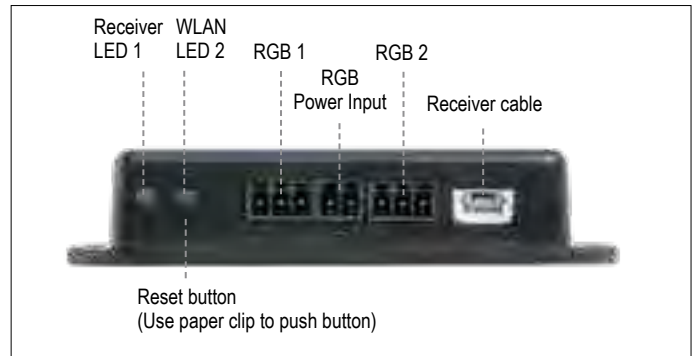

Figure 24: myfire Wi-Fi Box (B6R-W2...)
**LED INDICATION ON MYFIRE WI-FI BOX (see figure 24, page 23)**
- Multiple users on the same Wi-Fi channel may interfere with the data transfer. Press reset button on the myfire Wi-Fi Box for 1 second to change current channel (see figure 24, page 23).